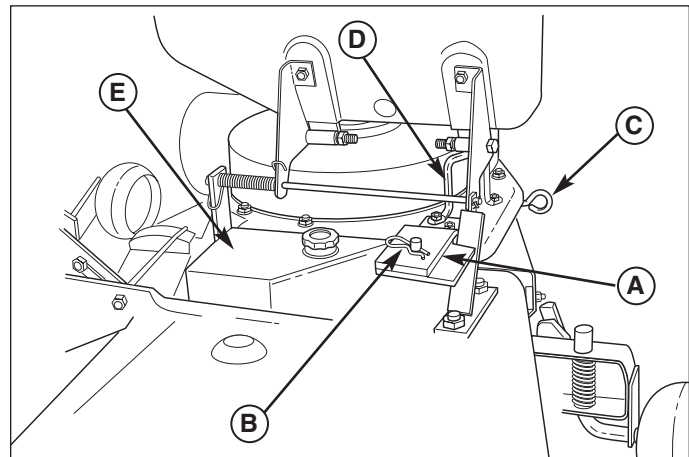
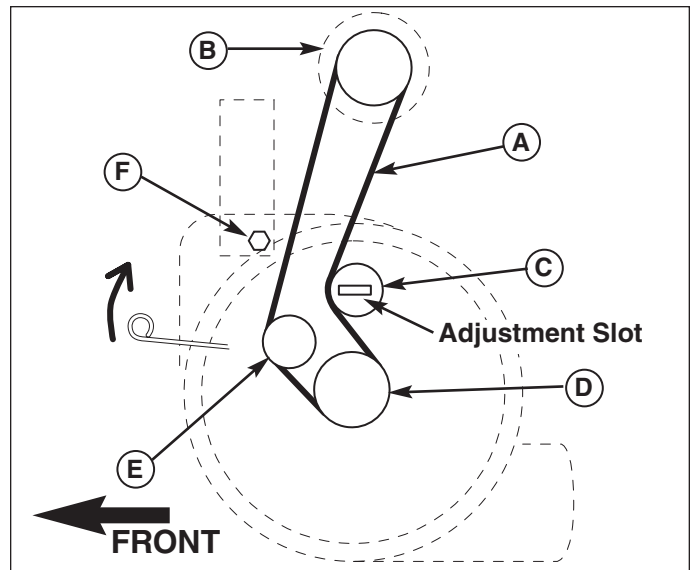

Figure 8. Mount Turbo
Figure 11. Turbo Belt Routing
3. Slide turbo assembly as far rearward as possible so that the front turbo edge is tight against the front mower deck edge. Secure the turbo with the hair pin clip (B, Figure 8).
4. Move the idler release lever (C) to release belt tension.
5. Route the belt as shown in Figure 11. Make sure it is seated in all pulley grooves. The belt must be routed to the inside of the 2-1/4" capscrew as shown in Figure 11.
6. Close the belt cover (E, Figure 8) and tighten the knob into the pul nut.
7. Make sure that deflector rests on upstop (D, Figure 8) and does not contact the turbo housing. If deflector contacts housing, use washer(s) as shims under the upstop legs to increase clearance.
If the mower deck belt has stretched over time, the stacked idler pulley (B, Figure 11) may need to be moved to the outer hole in the mower deck to take up the belt slack.
1. Loosen the back-side idler pulley (C, Figure 11) hardware.